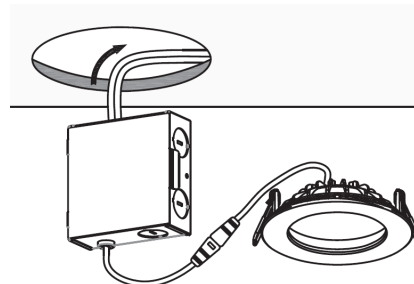

Fig 2
7. Insert the junction box through the mounting hole in the ceiling. Let it sit freely above the ceiling or mount it to a ceiling joist (Fig 2)